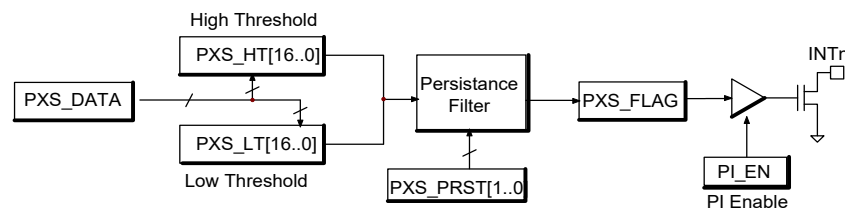

Figure 4. Interrupt Scheme
If PI_EN is set the INT_n pin will also assert. If not, INT_n will be in high impedance (HZ) state, independent of the status of the PXS_FLAG signal. Figure 4 shows the logic connections for the different blocks used to generate an interrupt.